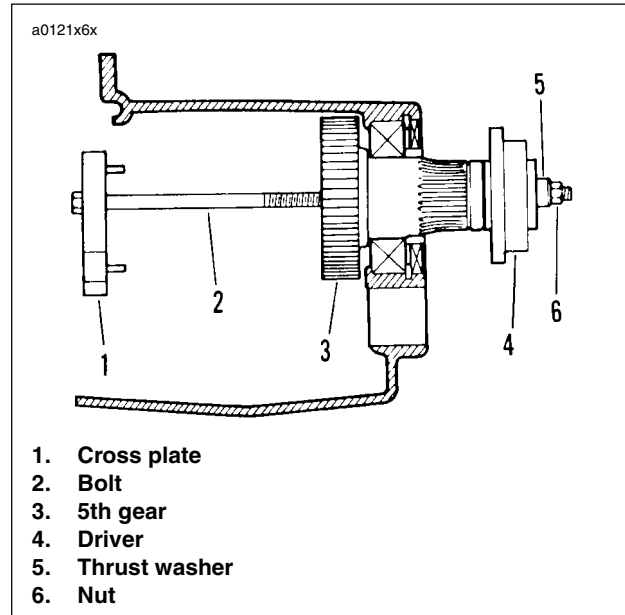

Figure 6-69. Removing Main Drive Gear
5. See Figure 6-69. Assemble MAIN DRIVE GEAR REMOVER AND INSTALLER (Part No. HD-35316-A) with CROSS PLATE (Part No. B-45847).
6. Insert bolt (2) through cross plate (1) and 5th gear (3).